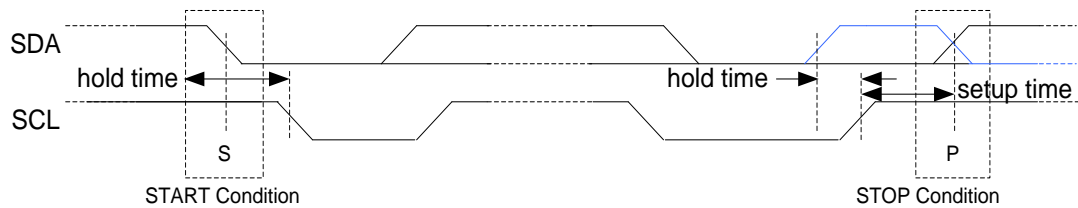

Figure 54. START and STOP (or repeated START, blue line) condition
An idle I2C bus state occurs when both SCL and SDA are not being driven by any master and are therefore in a logic HI state due to the pull up resistors. Every transaction begins with a START (S) signal and ends with a STOP (P) signal. A START condition is defined by a high to low transition on the SDA while SCL is high. A STOP condition is defined by a low to high transition on the SDA while SCL is high. START and STOP conditions are always generated by the master. This slave module also supports repeated START (Sr) condition which is same as START condition instead of STOP condition (the blue-color line shows repeated START in Figure 54).